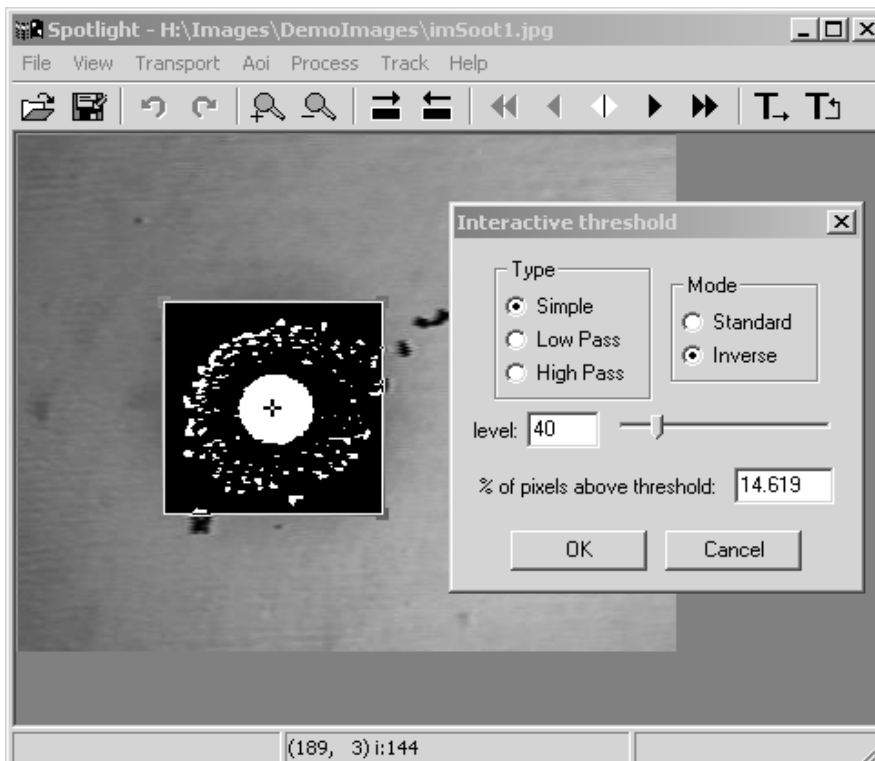

Figure 29. – Center Tracking example.
4. First, we need to determine what threshold levels to use. Select “Process->Threshold” menu item to bring up the Threshold dialog box. Under “Mode”, select “Inverse” to inverse the pixel gray-levels to the Spotlight convention of black background and white foreground. Drag the slider and watch what happens inside the AOI. Level of about 0.156 seems to preserve the right size of the droplet. (Note: the image in Figure 29 was taken at this point) Click OK button to close the Threshold dialog box. What you should be seeing inside the AOI is black background and one large white circle surrounded by white soot particles.